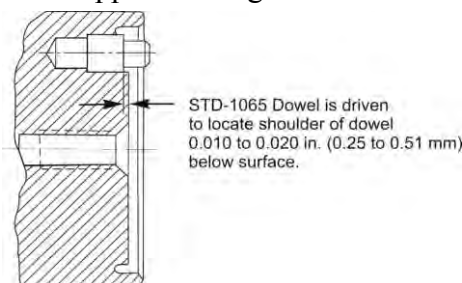

Figure 37
- (3) Drill a 1/8 in. (3.18 mm) diameter hole through the center of the installed alignment dowel, not to exceed 0.6 in. (15.2 mm).
- (4) Fill the new drilled hole with oil.
- (5) Put a piece of 1/8 in. (3.18 mm) diameter drill rod in the drilled hole.
- (6) Use a hammer or mallet to hit the end of the drill rod.
- (7) Hydraulic pressure from the oil will push out the alignment dowel from the crankshaft. Remove and discard the alignment dowel.
- (8) Examine the bottom of the alignment dowel hole to make sure that the drill bit did not make contact with the bottom of the hole. If the drill bit made contact with the bottom of the hole, send the crankshaft to the factory for evaluation.
- (9) Refer to Table 2 for the correct type and size of alignment dowel.
- (10) Press the replacement alignment dowel into the alignment dowel hole to the required driven height. Refer to the applicable Figure 37 for the correct driven height.